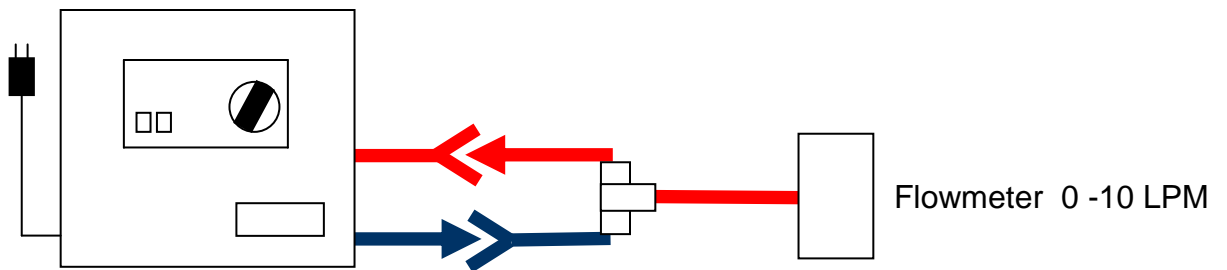

FIGURE 4
- 8.3.1 Connect control unit to the flow meter as shown in FIGURE 4. Fully open flow meter (flow meter control knob turned counter-clockwise)